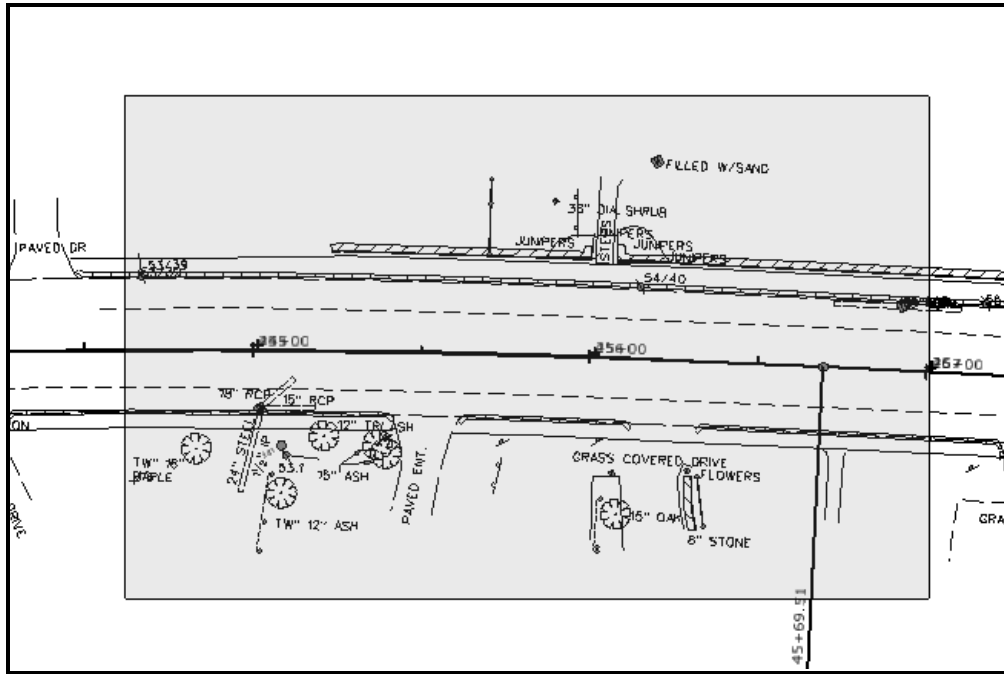

Figure 1-48: Place Fence
- Based on the rotation you used in your view, it may be necessary to toggle the **Rotate 90** on or off to plot correctly (Figure 1-48).